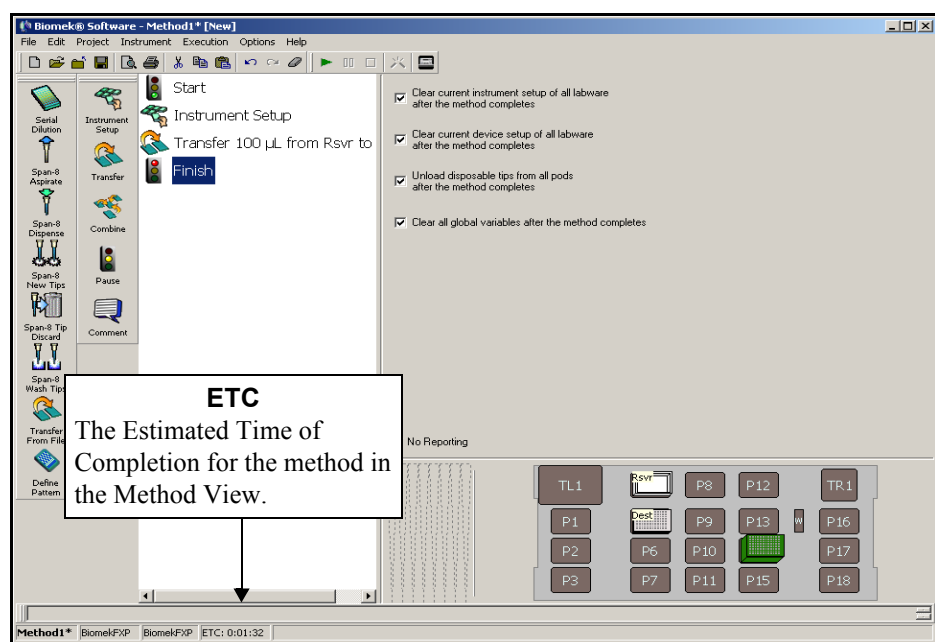

Figure 5-13. Finish step displaying the ETC
2. Check the status bar at the bottom of the editor for a display of the ETC. For this method, the ETC is approximately 1:32 (Figure 5-13). It's all right if your ETC varies slightly.